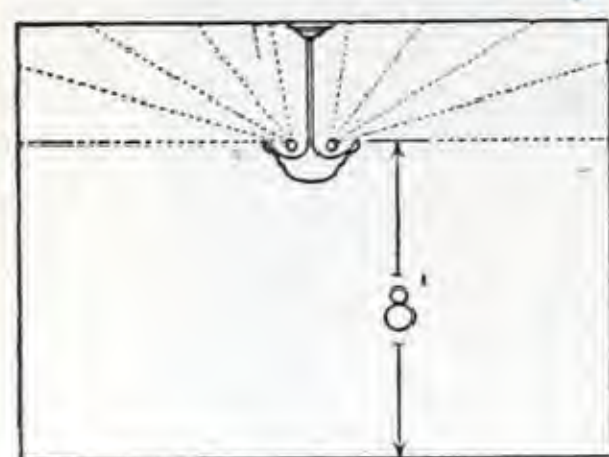
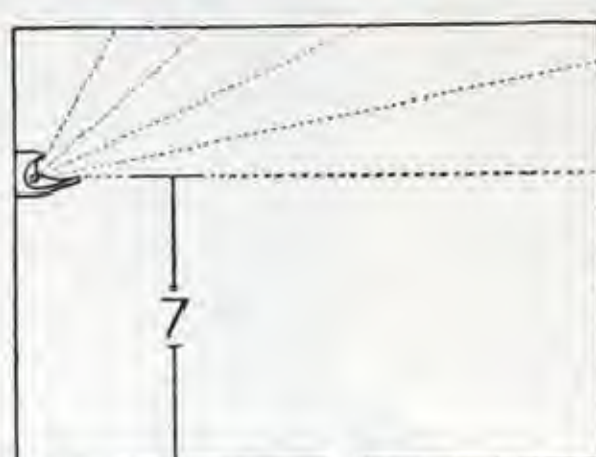

Figure 1
Figure 2
**Infant Wards:** In large areas where numerous healthy babies are bedded, use "Air-Displacement Table." For an example, let us take a room 30' x 30' with a 12' ceiling-height. From column "C" figures in table, we find that 6 30-watt lamps, or 16 15-watt lamps should be used to effect approximately 300 Air-Changes-Per-Hour. Therefore, three centrally located Indirect Units can be ceiling-mounted 8' from floor (see Figure 1 above) or six Bracket Type units can be mounted on the side-walls, 7' 0" above floor-level (see Figure 2 above).